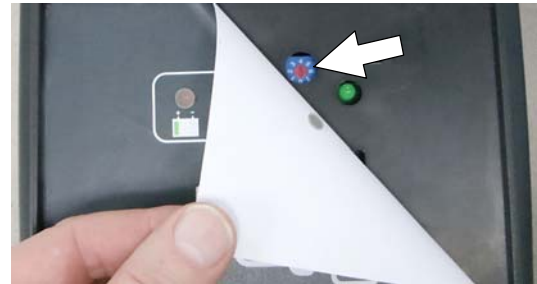

FIG. 77
2. Carefully peel back the charger display label to access the dial settings (Figure 77).